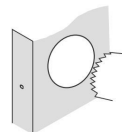

Figure 3a
- Drill 2-1/8" (54mm) hole through door panel as marked for lock set (Figure 3a).